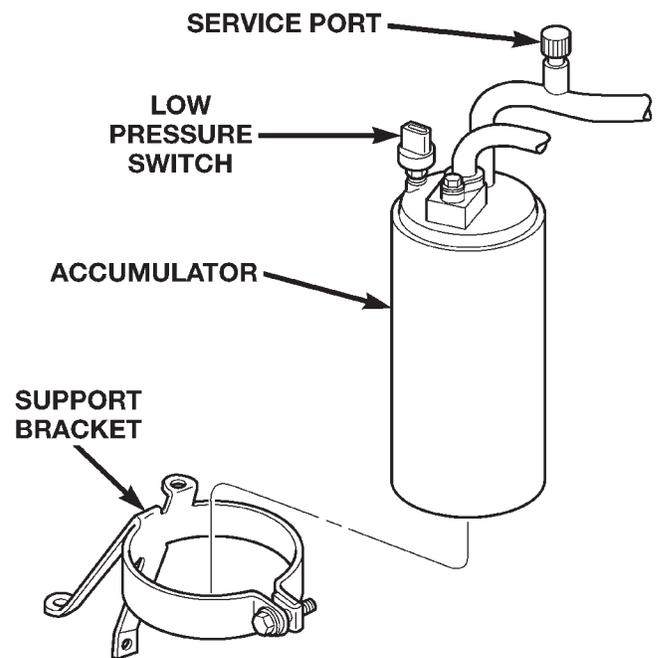

Fig. 12 Accumulator and Low Pressure Switch
(3) Start the engine and hold the idle at 1,000 rpm with the compressor clutch engaged.
(4) The engine should be at operating temperature. The doors and windows must be open.
(5) Insert a thermometer in the driver side center A/C (panel) outlet. Operate the engine for five minutes.
(6) The compressor clutch may cycle, depending upon the ambient temperature and humidity. If the clutch cycles, unplug the low pressure switch wire harness connector from the switch located on the accumulator (Fig. 12). Place a jumper wire across the terminals of the low pressure switch wire harness connector.